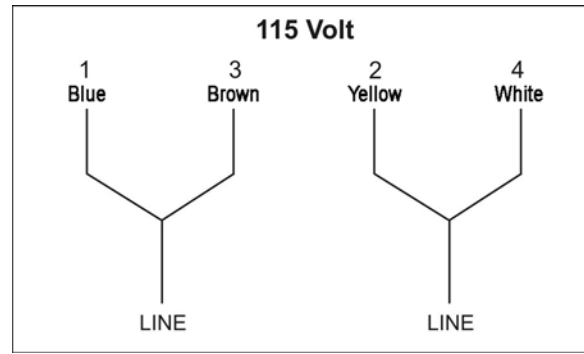

Figure 12
- To switch the incoming power leads for 230 volt operation, follow the wiring diagram on the inside cover of motor junction box. Similar diagrams are shown in Figures 12/13.